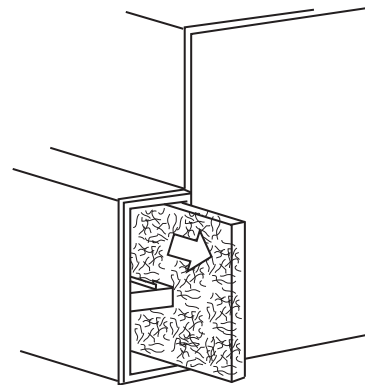
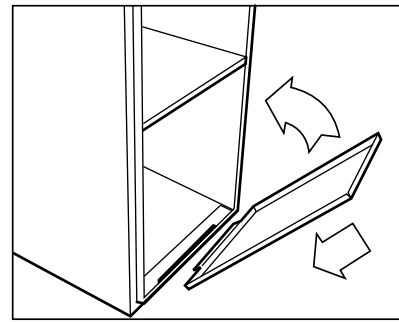

Fig. 29 - Removal of Filter from Side Blower Cabinet
Fig. 33 - Replace Blower Access Panel
- b. Slide air filter out of furnace. Keep dirty side up (if dirty) to avoid spilling dirt. See Fig. 29 and 30.
7. Replace blower access panel and main furnace door (See Fig. 33 and 34) or filter cabinet door (Fig. 29 and 30).